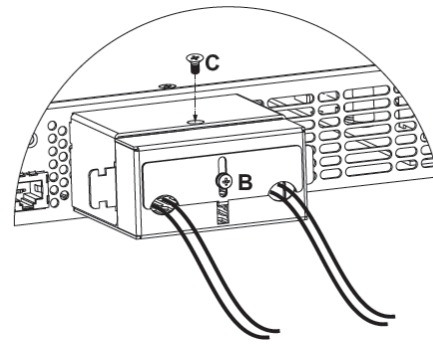

Fig.3-9: Enclosure assembly
7. Assemble the bottom cover enclosure back to it's place, as show in Fig. 3-9, using screw “C”, (tightening torque 4.8-5.3 Lb-inch)